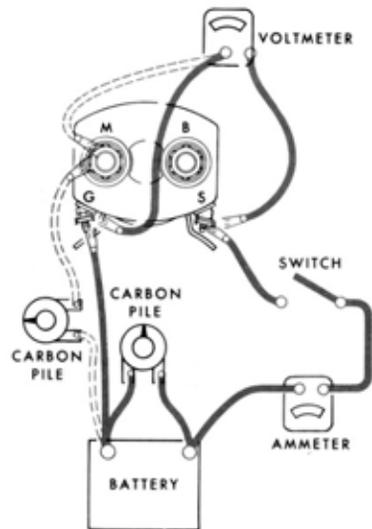

Figure 19—Checking solenoid hold-in and pull-in windings. (Note: Terminal locations may vary.)
SW) terminal and to ground, or to the second switch terminal, (G), if present, to check the hold-in winding (Fig. 19). Use the carbon pile to decrease the battery voltage to the value specified in Service Bulletins 1S-180, 1S-186, 1S-187 and 1S-188 and compare the ammeter reading with specifications. A high reading indicates a shorted hold-in winding, and a low reading excessive resistance. To check the pull-in winding connect from the solenoid switch terminal (S) to the solenoid motor (M or MOT) terminal. To check for grounds, move battery lead from "G" terminal to solenoid case, and from "M" terminal to solenoid case. (Fig 19, not shown) Ammeter should read zero for both windings. If not solenoid is grounded.